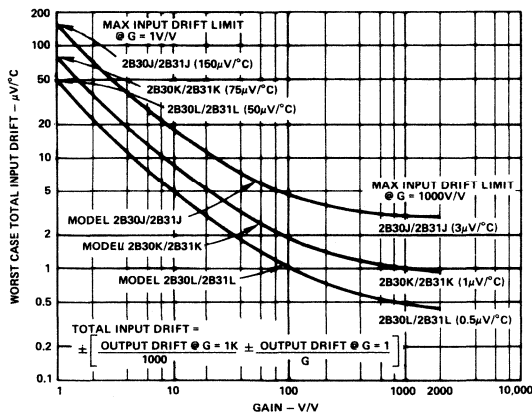

Figure 10. Total Input Offset Drift (Worst Case) vs. Gain
**Input Offset Voltage Drift:** Models 2B30/2B31 are available in three drift selections:  $\pm 0.5$ ,  $\pm 1$  and  $\pm 3\mu\text{V}/^\circ\text{C}$  (max, RTI,  $G = 1000\text{V}/\text{V}$ ). Total input drift is composed of two sources (input and output stage drifts) and is gain dependent. Figure 10 is a graph of the worst case total voltage offset drift vs. gain for all versions.